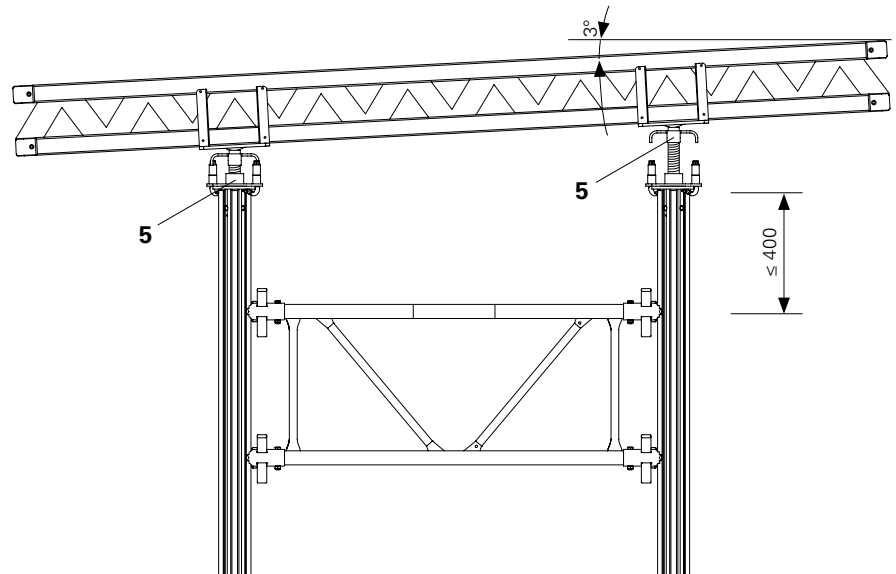

Fig. A2.17
The Tilting Forkhead MKK (5) with quick-action clamp coupling can be pivoted on all sides by up to 3°. It serves to reliably support one or two GT 24 or VT 20 girders for non-horizontal slab formwork. (Fig. A2.17)